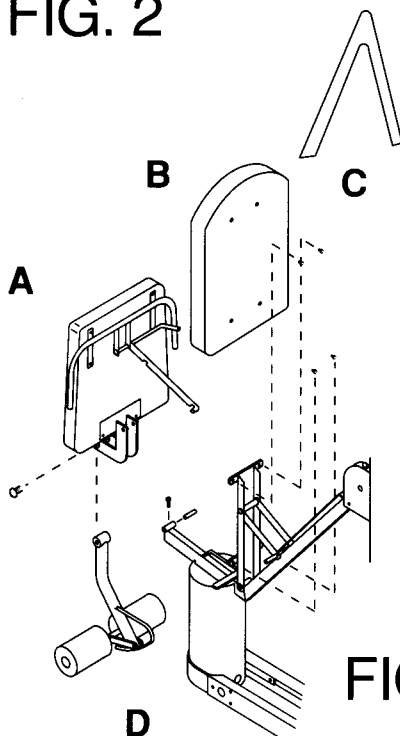

FIG. 3
6. Install leg/ab seat assembly (A) to column (1/2" rod and 1/4-20 x 1/2 screw) (Fig. 3) Attach leg/ab seat back (B) to frame. (1/4-20 x 3/4 hex screws, Qty: 4) Attach abdominal crunch strap (C) to the cable at the top of the seat back. Attach the leg developer (D) to the seat bottom assembly. (1/2-13 x 1 button head screw, Qty: 2). (Fig. 3)